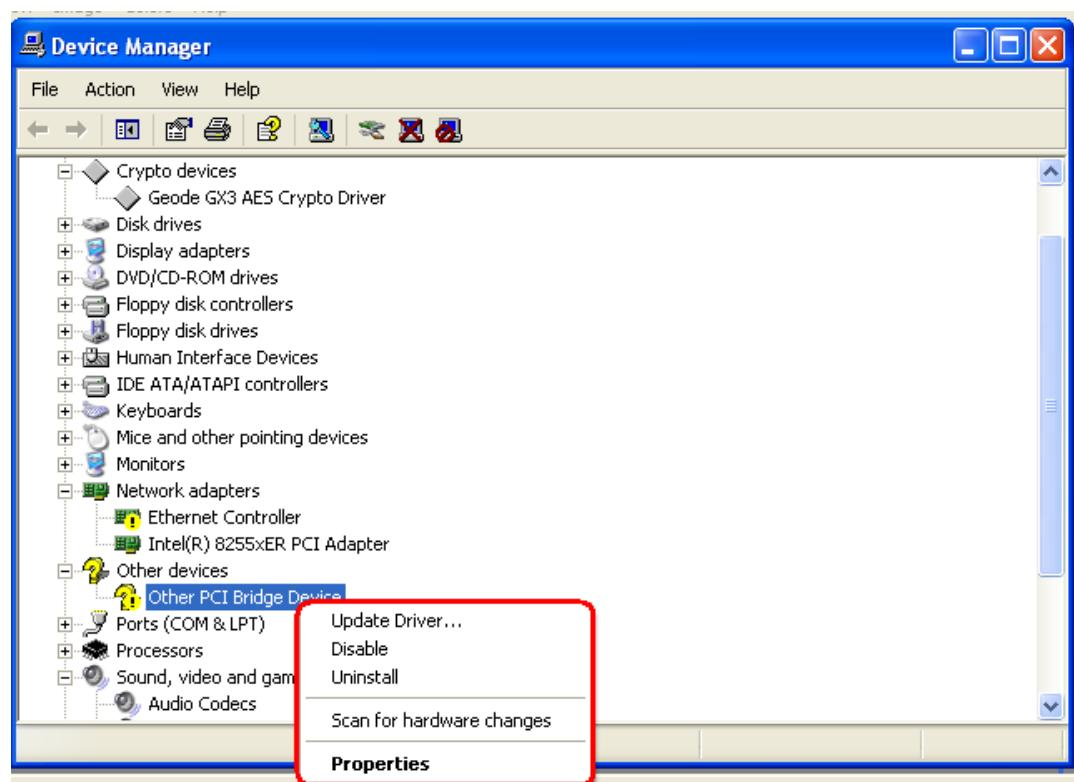

Figure 7-43: Other PCI Bridge Device Controller Driver Selection
Step 76: The small window in **Figure 7-43** appears.
Step 77: Select the **UPDATE DRIVER** option in the small window shown in **Figure 7-43**.